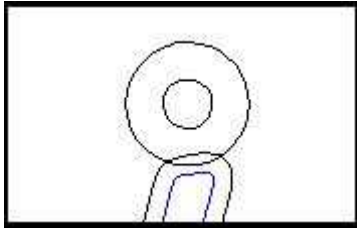

Figure 7
- 12 We now need to place the circles in the correct place to form the chain mountings. Select one of the combined circles and drag it into position over the top of the "d", overlapping the outside toolpath, see Figure 7.